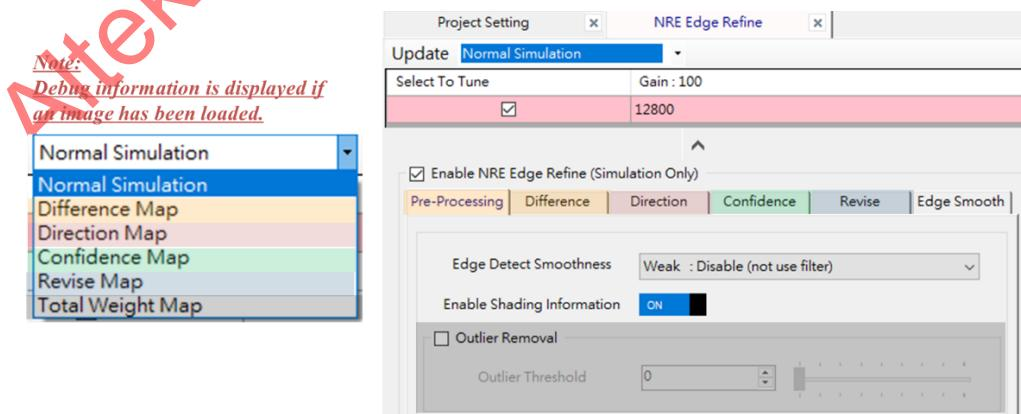

Fig. 5-92 ER debug information
- Each debug information can be cross-referenced to the title of each sub-page, as Fig. 5-92